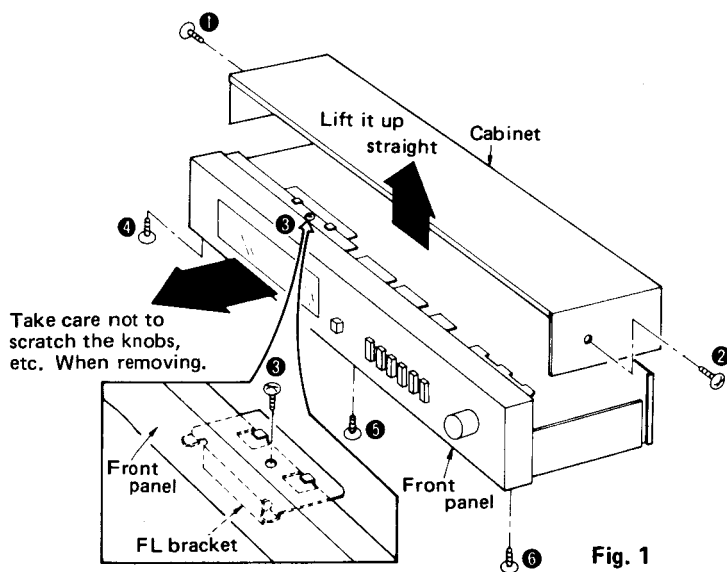

Fig. 1
1. Remove the 2 setscrews (Fig. 1: ①, ②) of the cabinet.
2. Remove the 1 setscrew (Fig. 1: ③) of the FL Bracket and move the FL bracket in the direction of the arrow A in Fig. 1.
3. Remove the 3 setscrews (Fig. 1: ④ ~ ⑥) of the front panel, and move the front panel in the direction of the arrow B in Fig. 1.